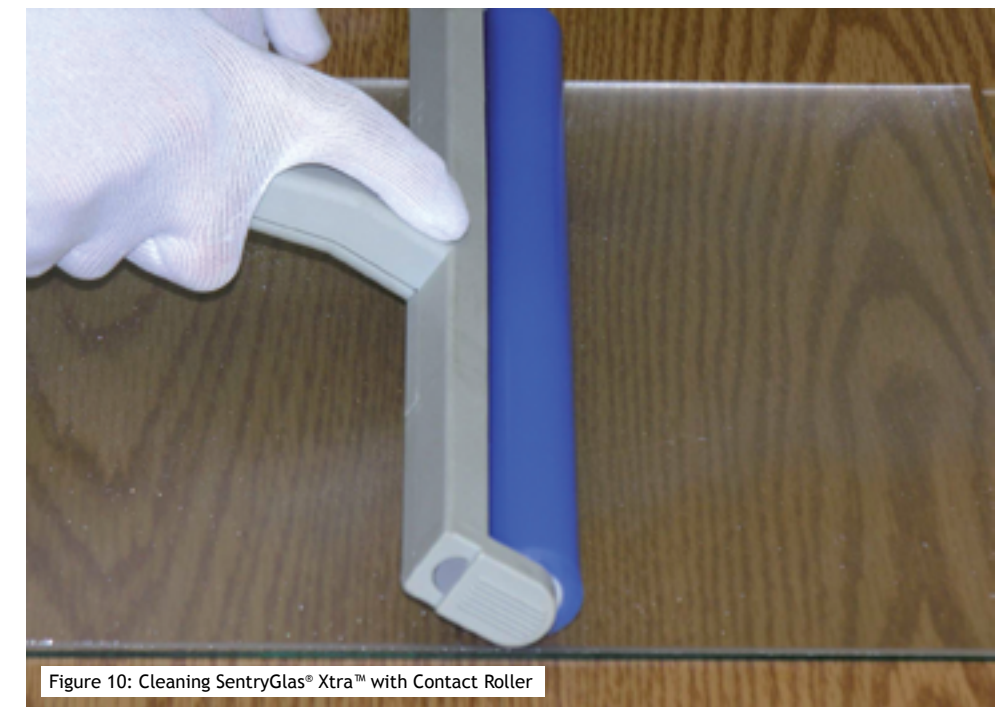

Figure 10: Cleaning SentryGlas® Xtra™ with Contact Roller
- 1. Contact tacky roller (e.g. Tek Nek or SDI (see Figure 10). Ensure that when purchasing the tacky rollers and cleaning pads that they are silicone free.